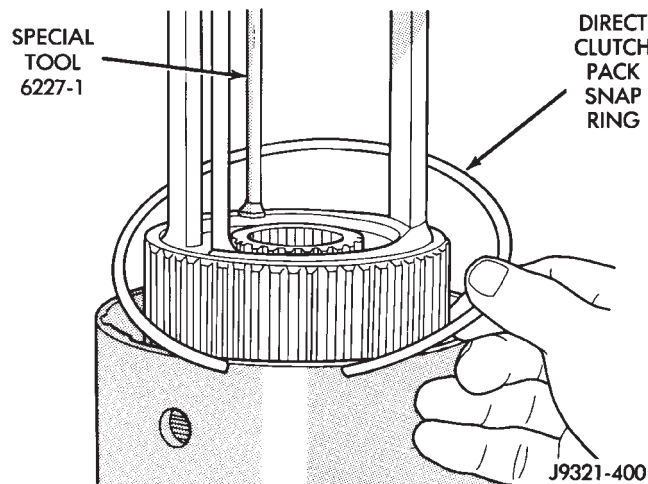

Fig. 226 Direct Clutch Pack Snap Ring Installation
(23) Realign clutch pack on hub and seat clutch discs and plates in clutch drum.
(24) Install direct clutch pack snap ring (Fig. 226). **Be very sure snap ring is fully seated in clutch drum ring groove.**